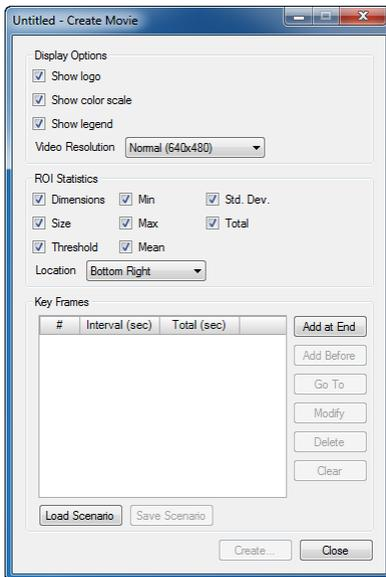

Figure 7-36. Create Movie window
2. Select **Tools | Create Movie**. The **Create Movie** window opens (Figure 7-36), allowing you to define a series of views called *key frames*. The software interpolates the frames between the defined key frames to create a continuous movie. Note, the **Create Movie** menu item is disabled if more than one panel is displayed in the **Analysis** tab.